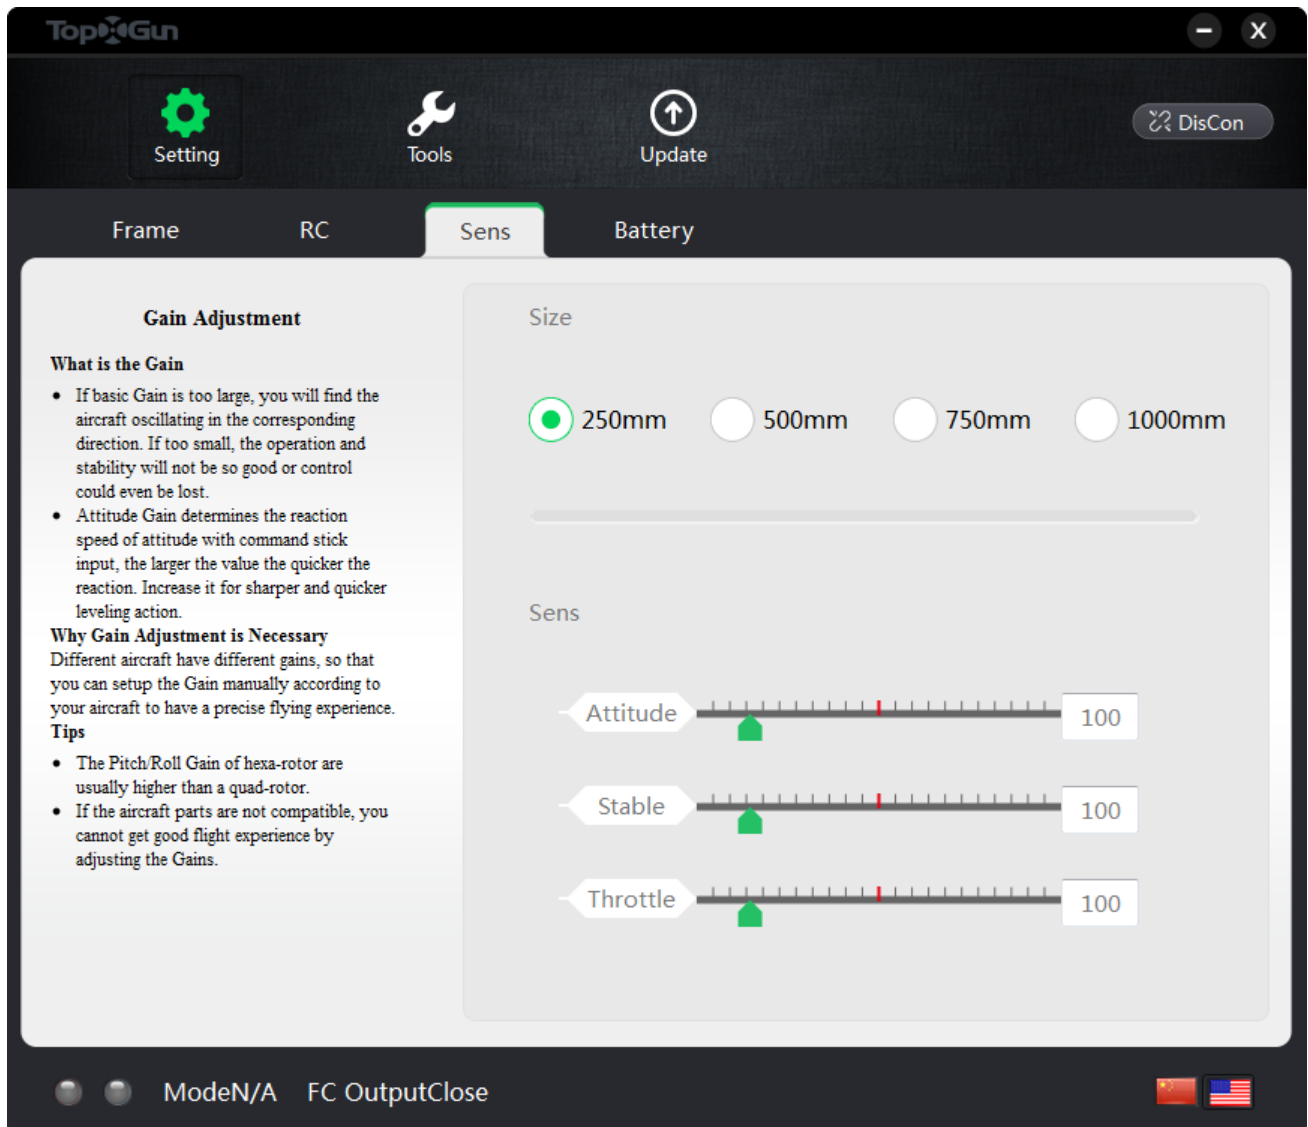

Figure 1-6 Gain setting
Step4. Gain setting, , as shown in Figure 1-6.